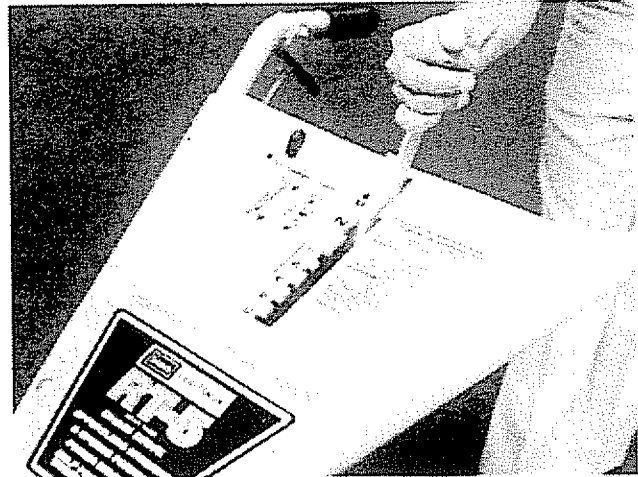

FIGURE 23.
F. Reverse (R)—Pull the gear shift lever back (upward) slowly to obtain reverse. Always use caution when using the reverse. When using reverse, if gear shift lever is released it will snap back into neutral (N). See figure 23.